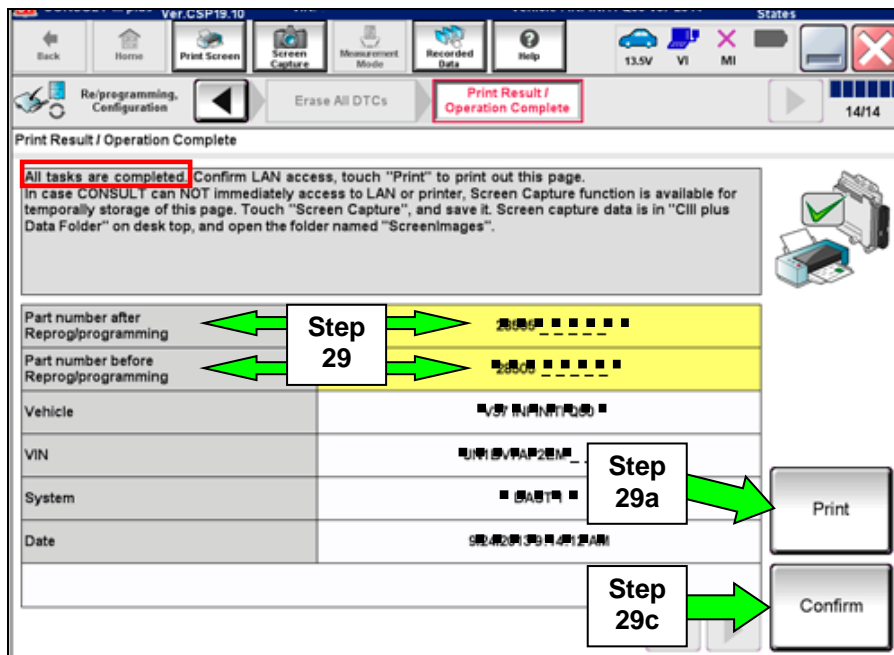

Figure 24
- a. Print a copy of the screen shown in Figure 24 by selecting **Print**.